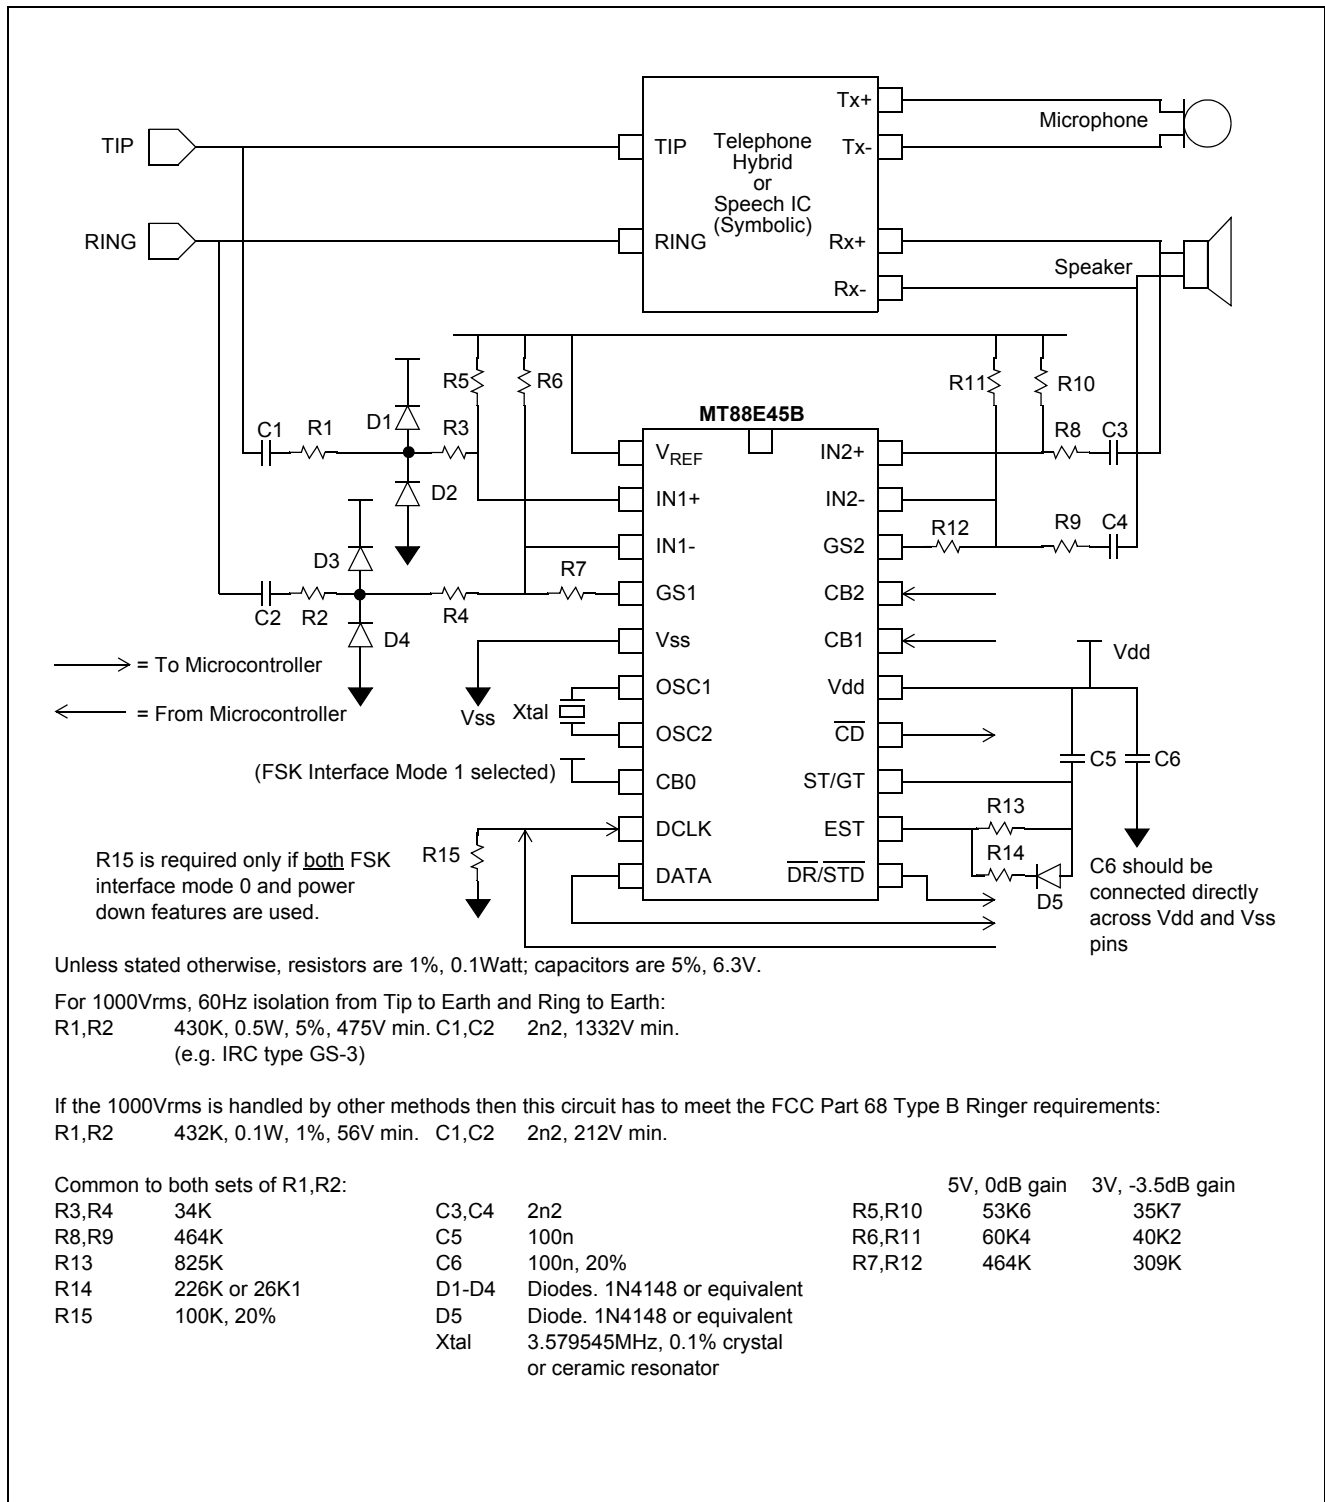

Figure 7 - Application Circuit: Bellcore MEI Compatible Type 2 Telephone
In power down mode both input op-amps,  $V_{REF}$  and the oscillator are non functional. DCLK becomes an input because to select the power down state CB0 is 1 which will select FSK interface mode 1. If the application uses FSK interface mode 0 and the MT88E45B needs to be powered down then a pull down resistor should be added at the DCLK pin to define its state during power down (R15 in Figure 7). When the MT88E45B is powered down DATA,  $\overline{DR/STD}$ ,  $\overline{CD}$  are high; EST and ST/GT are low.
- For the GS1 op-amp, start with the 0 dB gain setting resistor values of  $R5_{0dB}$ ,  $R6_{0dB}$  and  $R7_{0dB}$ . In Figure 7 these values are 53K7, 60K4 and 464 K respectively. Keep C1,C2,R1,R2,R3,R4 as in Figure 7 to maintain the highpass corner frequency constant for all gain settings.